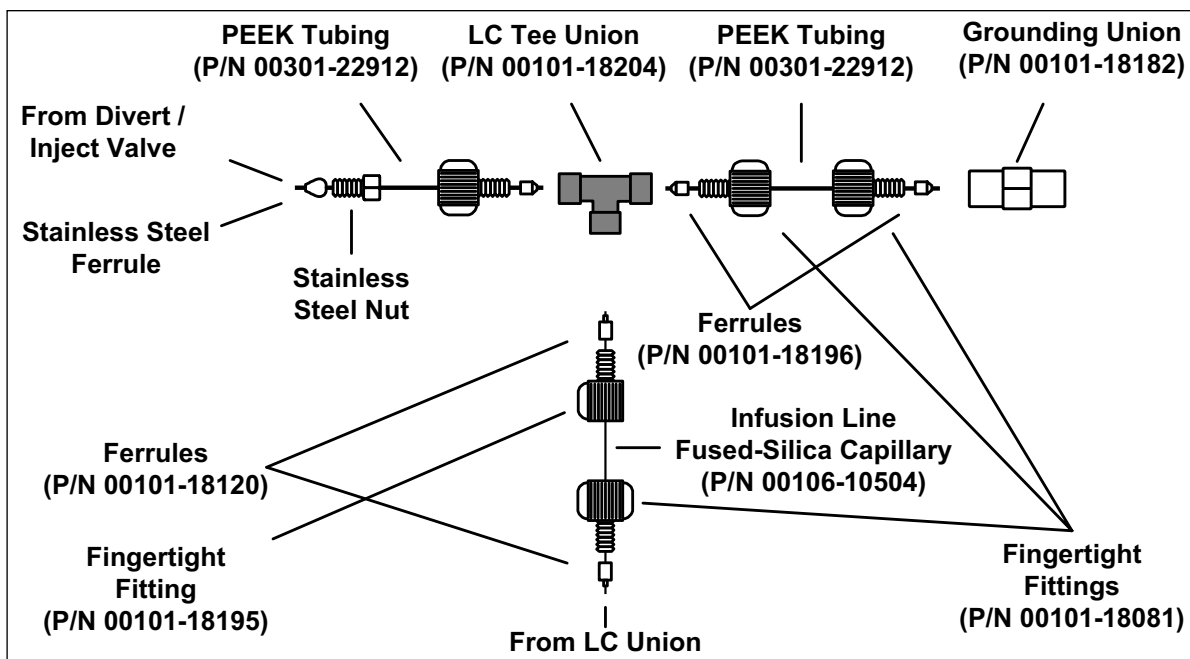

Figure 7-2. APCI/MS plumbing connections for the LC Tee union
4. Connect a fused-silica infusion line from the (black) LC union to the (black) LC Tee union, as follows. See Figure 7-2.
5. Connect a segment of PEEK tubing from the (black) LC Tee union to the APCI LC inlet, as follows. (See Figure 7-2.)
6. Connect an appropriate length of PEEK tubing (transfer line from the divert/inject valve) from the divert/inject valve to the LC Tee union, as follows. (See Figure 7-2.)